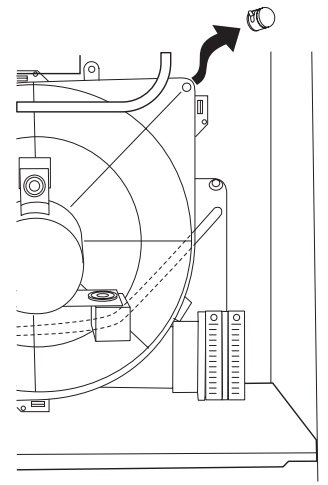

Fig. 38 - Upper Inducer Housing Drain Connection Cap
4. Remove upper inducer housing drain connection cap. (See Fig. 38.)